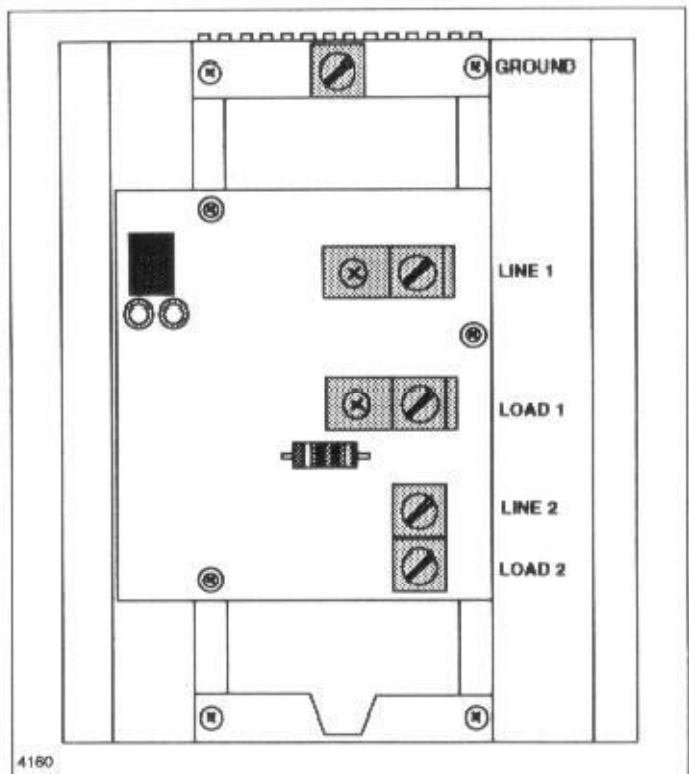
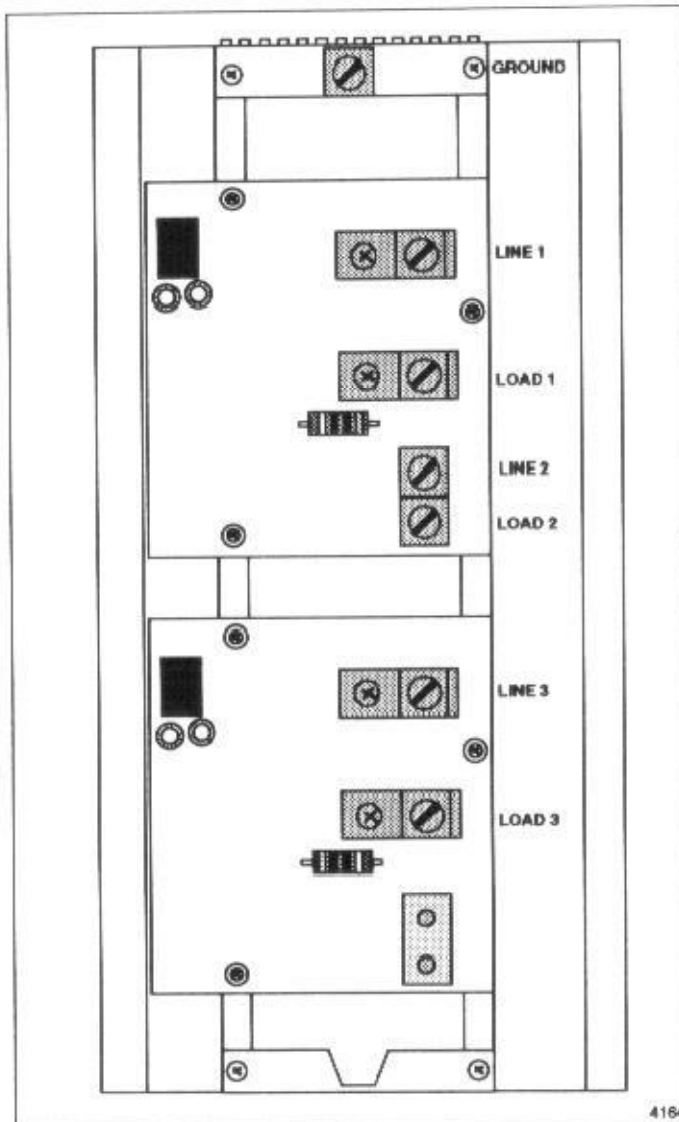

Figure 2-3. Typical model 664D LINE and LOAD connector locations.
Figure 2-4. Typical model 664E LINE and LOAD connector locations.
3. Attach the ground wire to the screw compression connector mounted at the end of the heat sink (figures 2-3 and 2-4).
4. Attach the external power lines to the **LINE** connectors on the printed circuit board(s) (see figure 2-3 for the 664D or figure 2-4 for the 664E). On the model 664E controller, connect the phase A power line to the **LINE 1** connector, the phase B power line to the **LINE 2** connector, and the phase C power line to the **LINE 3** connector.